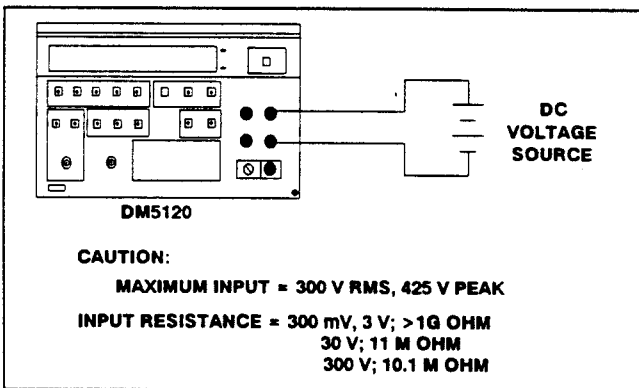

Fig. 2-5. DC Voltage Measurements.
3. Connect the signal to be measured to the selected input terminals as shown in Figure 2-5.